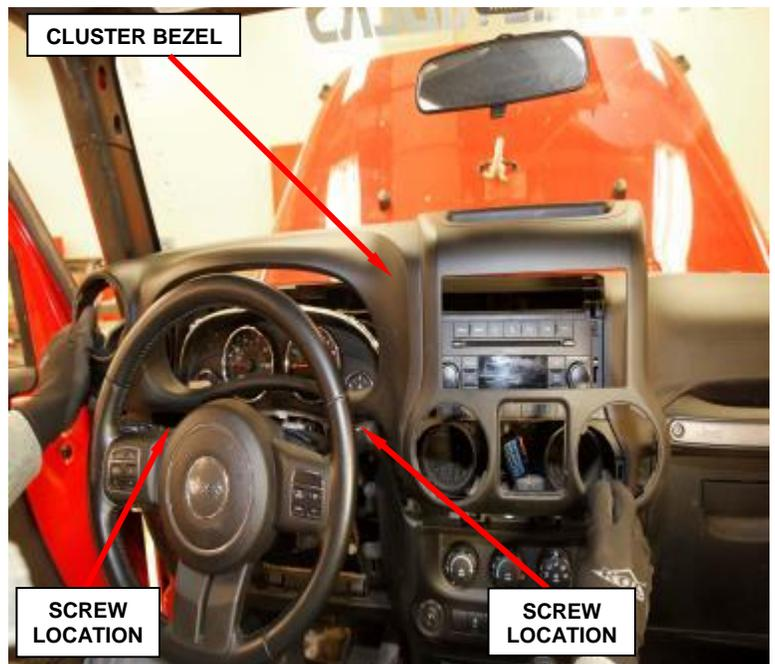

Figure 98 – Cluster Bezel Screws
19. Remove the two screws below the cluster on both sides of the steering column (Figure 98).